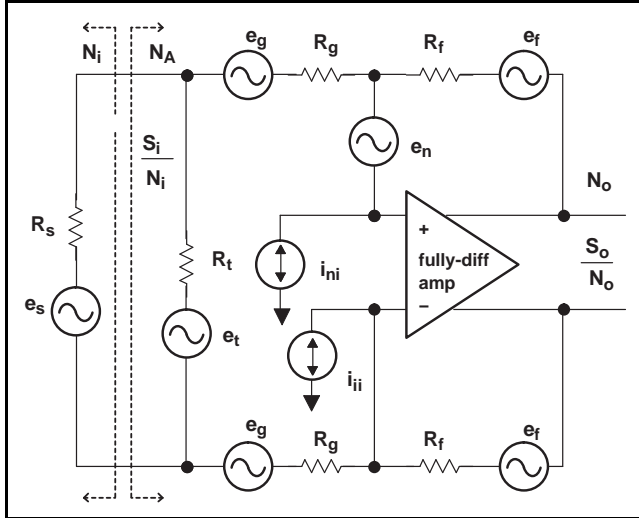

Figure 112. Noise Sources in a Fully Differential Amplifier Circuit
Noise analysis in fully differential amplifiers is analogous to noise analysis in single-ended amplifiers; the same concepts apply. Figure 112 shows a generic circuit diagram consisting of a voltage source, a termination resistor, two gain setting resistors, two feedback resistors, and a fully differential amplifier is shown, including all the relevant noise sources. From this circuit, the noise factor (F) and noise figure (NF) are calculated. The figures indicate the appropriate scaling factor for each of the noise sources in two different cases. The first case includes the termination resistor, and the second, simplified case assumes that the voltage source is properly terminated by the gain-setting resistors. With these scaling factors, the amplifier input noise power ( $N_A$ ) can be calculated by summing each individual noise source with its scaling factor. The noise delivered to the amplifier by the source ( $N_i$ ) and input noise power are used to calculate the noise factor and noise figure as shown in Equation 23 through Equation 27.